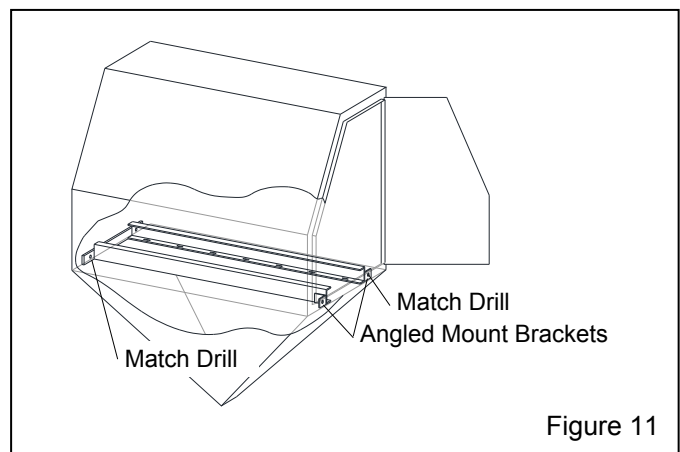

Figure 11
3.5.3 Center the track and table assembly inside the cabinet on top of the grate. Make sure the two angled mounting brackets are facing toward the door from which the table will slide, refer to Figure 11.